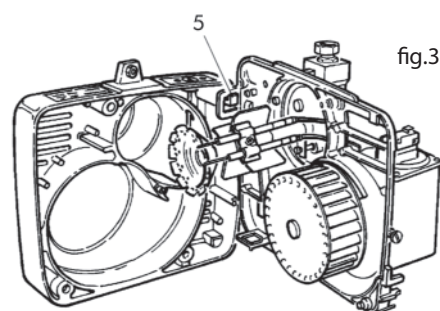

fig.3
- Hang the component holder plate into the service position 5 and effect combustion head maintenance (fig.3).